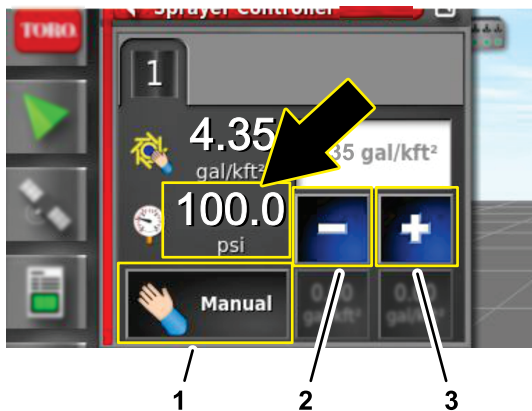

Figure 205
- In the spray rate controller dialog box, press the RATE CONTROL MODE icon until manual mode displays (Figure 205).
- Press the decrement icon (-) or increment icon (+) to adjust the spray system pressure (Figure 205) to 6.9 bar (100 psi).